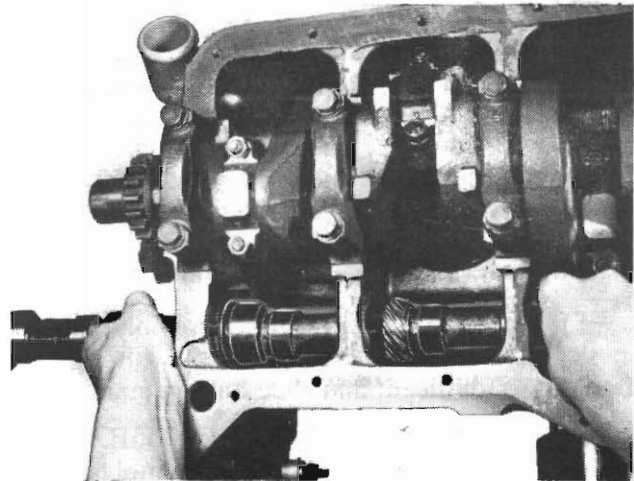

Fig. 32 - Installing camshaft
(1) Lubricate the camshaft lobes and camshaft bearing journals and insert the camshaft in the cylinder block (*Fig. 32*).